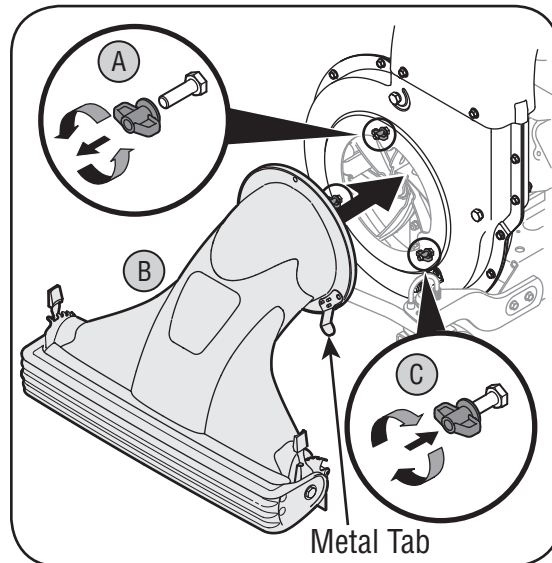

Figure 2
2. a. Remove three wing nuts from the front of the chipper shredder vacuum. See Figure 2.
- c. Secure with wing nuts just removed. See Figure 2.
NOTE: The metal tab on the nozzle must depress the safety switch button attached to the front of the chipper shredder vacuum or engine will not start. See Figure 2.